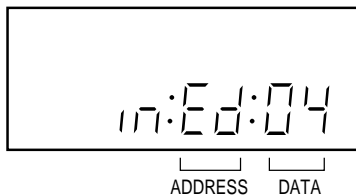

Fig. 1
2. ADDRESS and DATA should appear as FIG 1.